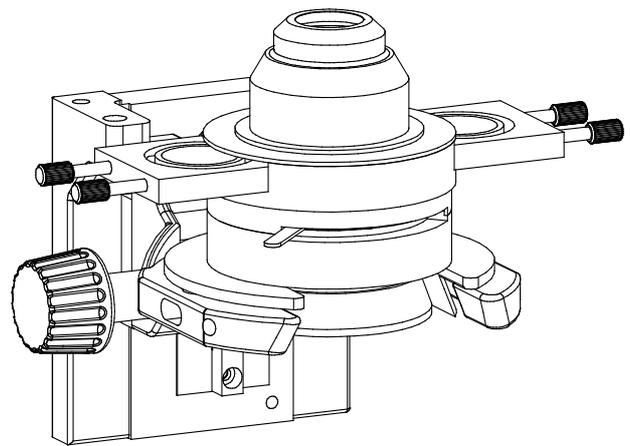

Fig.6
(4) If you choose the phase contrast condenser to observation, you need to install the phase contrast condenser on the bracket of the contrast, loosen the screw of height limit for let out the position fid, and turn the Condenser Adjustment to the position of under the simple or little more high of it ,do it all of above and lock the screw, as be shown in the Fig.6. About the adjustment and observation of the phase contract condenser operation, please read the << The Manual of the Phase Contract Condenser Operation>>.